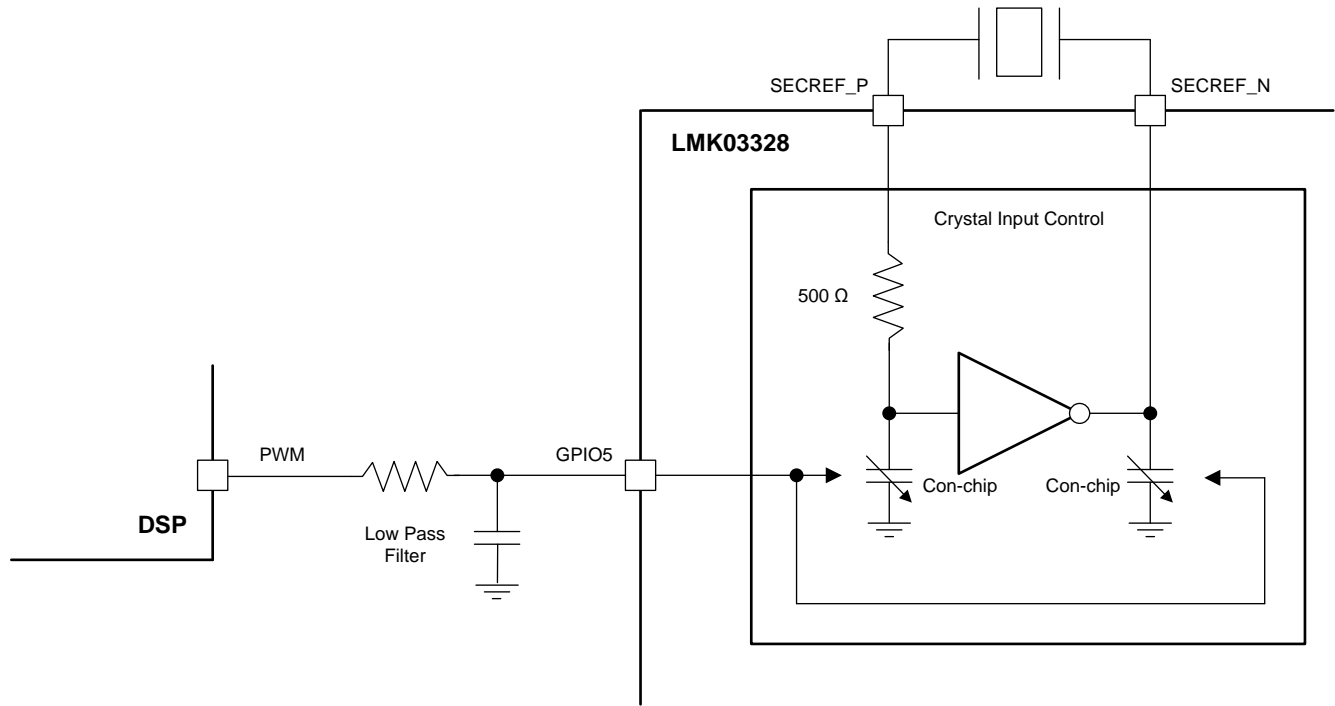

Figure 57. Crystal Load Capacitance Compensation using PWM Signal
- The second method is using a low-pass filtered PWM signal to drive the 8-level GPIO5 pin as shown in Figure 57. The PWM signal could be generated from the frequency difference between a highly stable TCXO and the output of LMK03328 that is provided as a feedback into the GPIO5 pin and used to adjust the on-chip load capacitance on the crystal input in order to reduce frequency errors from the crystal. This is a quick alternative that produces a frequency error at the LMK03328's output and could be acceptable to any application when compared to a full-characterization with a chosen crystal to understand the exact load pulling required to minimize frequency error at the LMK03328's output. More details on frequency margining are provided in the “Application Information” section.